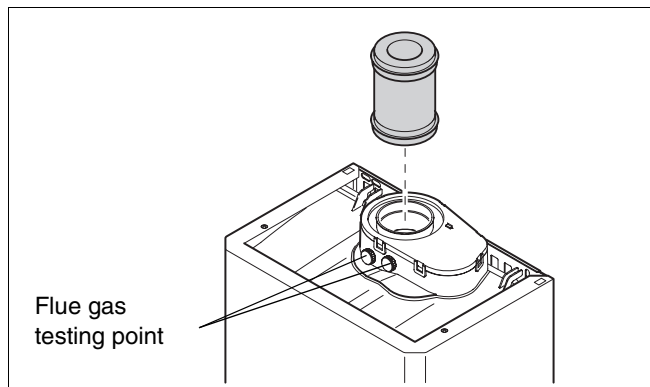

fig. 14 Vertical flue connection
- Fit the vertical flue gas duct or flue gas adaptor (80/125 to 60/100) (→ fig. 14) onto the appliance flue connector.